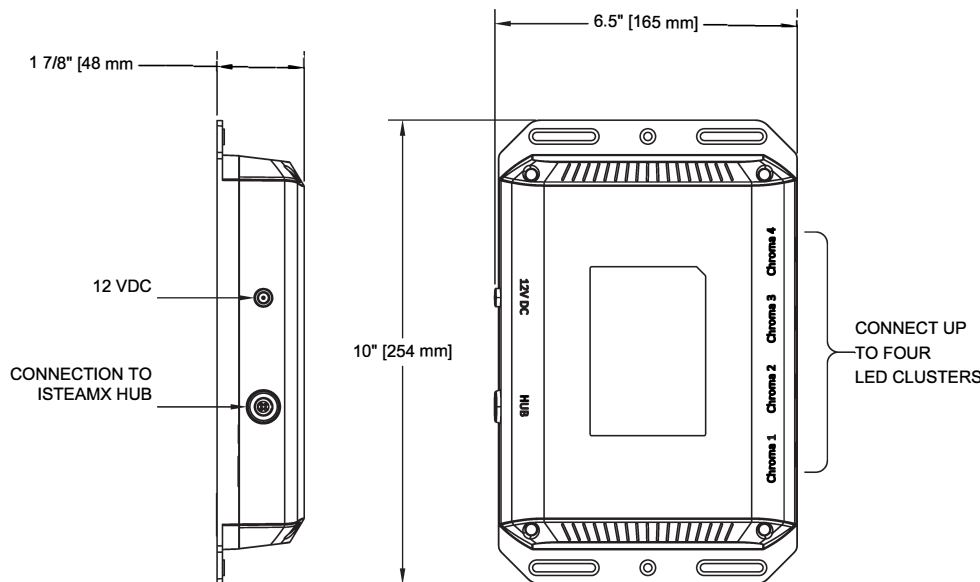

Figure 4
**(Figure 4).** The control box can be mounted in any orientation.